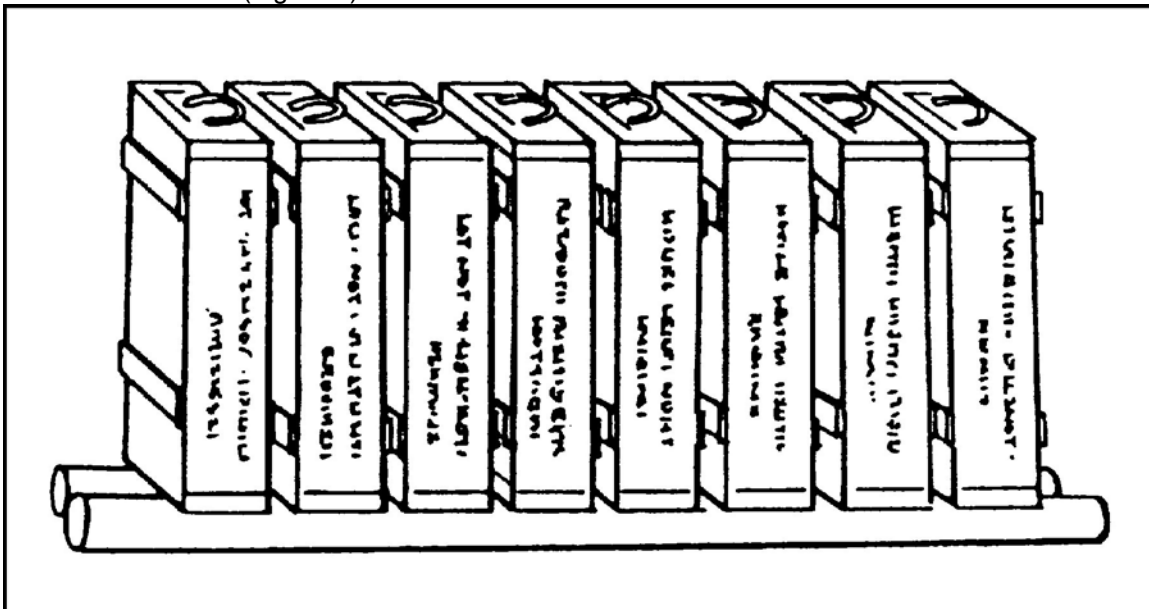

Figure 2. Storage of WP ammunition.
- b. Boxed WP ammunition must be stored on the dunnage, fuse UP. WP ammunition should not be stacked more than one layer (one box) high. There must be space between boxes and rows for ventilation (Figure 2).